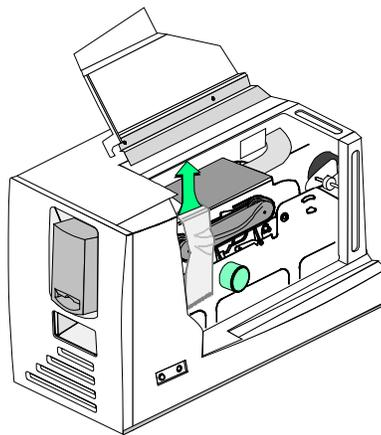

Figure 7-4: Remove the printhead packing tape
- b Lift an edge of the packing tape and pull it off the swing arm and chassis (Figure 7-4). Discard the tape.